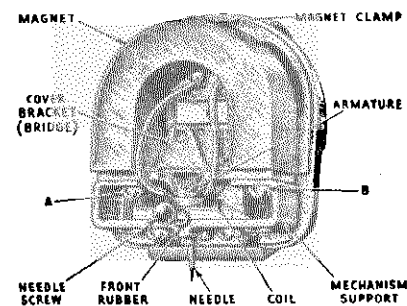

Figure 8
In order to replace a defective coil or the hardened pivot rubbers (see Figure 8), it is necessary to proceed as follows:
- (d) Remove screws A and B, Figure 8, and then remove the mechanism assembly from the pole pieces.
inserted. A little practice will quickly show which way an adjustment is necessary to have the armature centered properly. The adjustment is made by loosening screws A and B (Figure 8), and sliding the mechanism slightly in relation to the pole pieces.